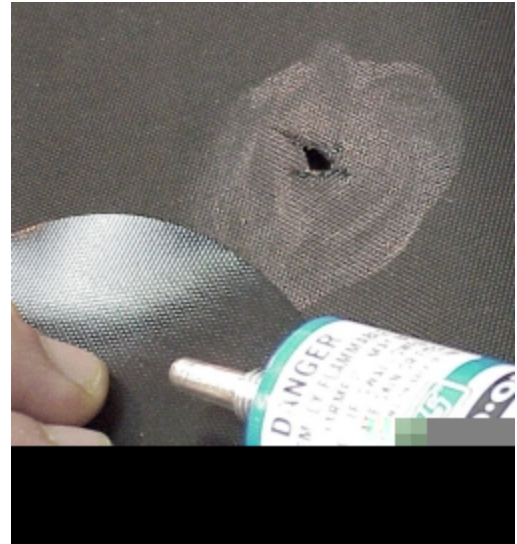

Fig. 4
3. After 20 minutes have elapsed, apply a third coat of adhesive to the BC material, and a second coat to the Patch. (Fig. 4)